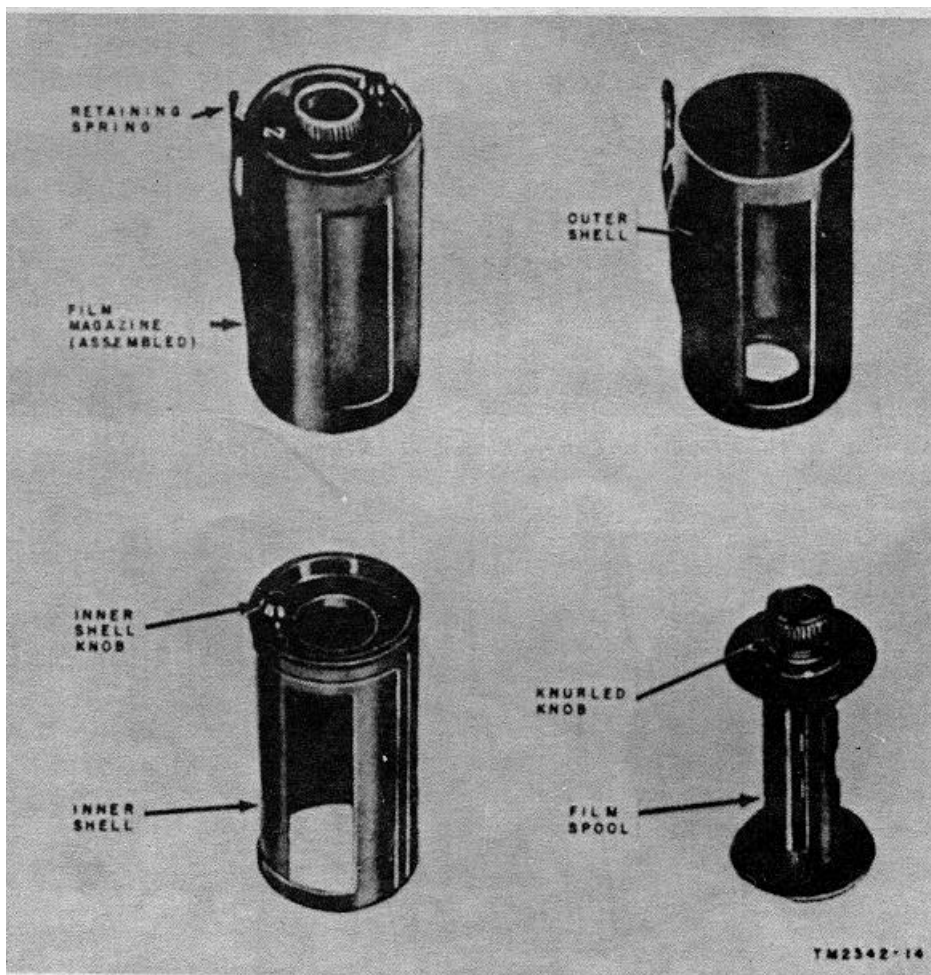

Figure 14. Film magazine, assembled and disassembled.
#### a. Opening Film Magazine (fig. 14).
- (2) Hold the film spool (knurled knob up) in the right hand. Insert the tapered end of the film (emulsion side in) into the slot in the film spool (fig. 14).
- (3) Wind approximately 5 1/4 feet of film onto the film spool reasonably tight.
- (2) Turn the knurled knob (fig. 14) counterclockwise to wind about 3 inches of the film leader into the film magazine.
- (3) Place the loaded film magazine into the film magazine can to protect the film from light and dust.